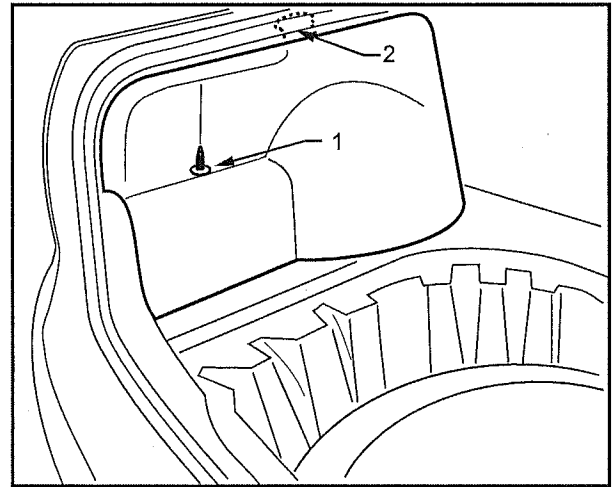

FIGURE 2
3. Use a trim release tool to remove the fir tree clips (1) and the carpet tongue (2) from the body recess holding the LHS compartment liner to the side of the vehicle. Pull liner out of the way. Refer to Figure 2.